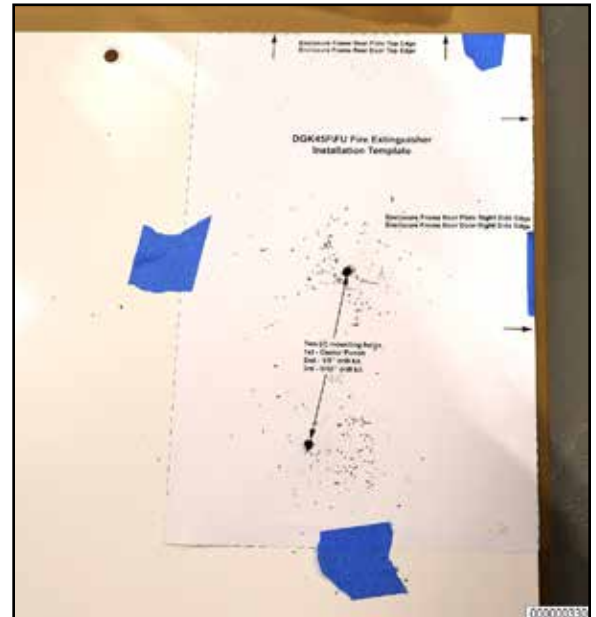

Figure 6
- **Step 11:** Using a 1/8" drill bit and drill, create pilot holes at previously marked center points on template. (Figure 6)